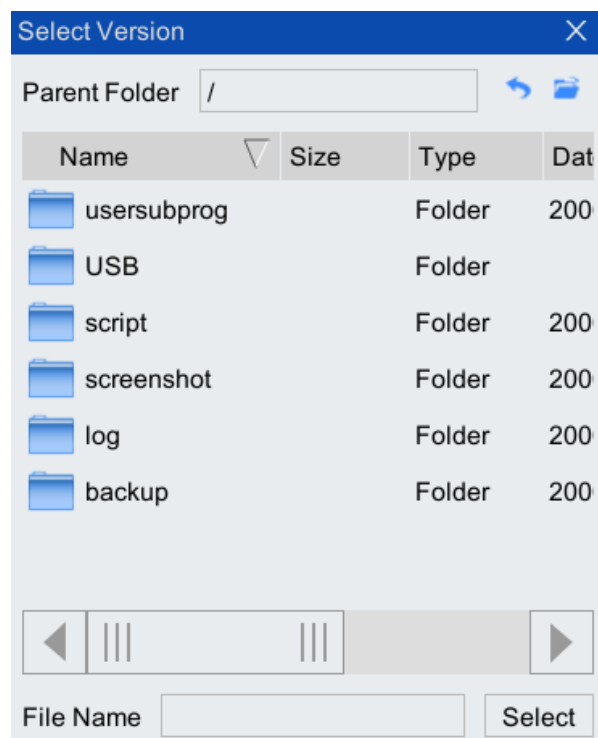

Figure 8-36 "Version Update" interface
Step1. On the main interface of the teach pendant, click "System > System and Update > Software Update" option, the "Select Version" list box pops up, as shown in Figure 8-36.